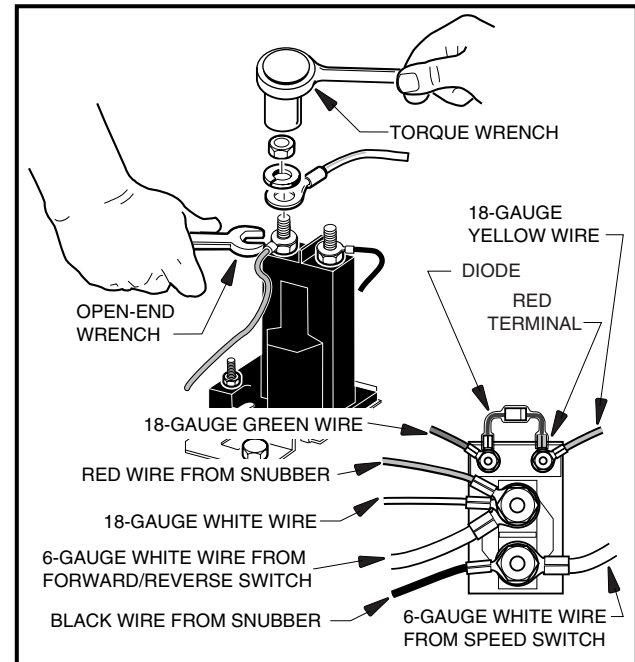

Figure 12-5 Connect Solenoid Wires
3. Install diode assembly onto small solenoid posts. Make sure the direction of the diode is correct. The red insulated terminal of the diode assembly should be installed on the same post that the 18-gauge yellow wire is attached, and the clear insulated terminal of the diode assembly should be installed on the same post that the 18-gauge green wire is attached (**Figure 12-5, Page 12-6**). **See following WARNING.**
6. Using a low profile wrench to hold the inner nuts on the solenoid posts in place, tighten the outer nuts of the large posts to 100 in-lb (11.3 N·m). Tighten the outer nuts of the small solenoid posts to 4 in-lb (0.5 N·m) (**Figure 12-5, Page 12-6**). **See following WARNING.**